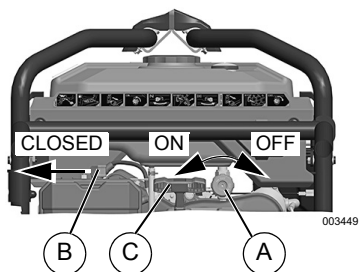

Figure 3-2. Engine Controls
3. Rotate the fuel shut-off valve (A) counter-clockwise to the ON (open) position. See Figure 3-2.
5. Slide engine choke lever (B) to Full CHOKE position (left). See Figure 3-2.
6. See Figure 3-2. Firmly grasp recoil handle (C) and pull slowly until increased resistance is felt. Pull rapidly up and away.
4. Slide engine choke lever (B) to Full CHOKE position (left). See Figure 3-2.